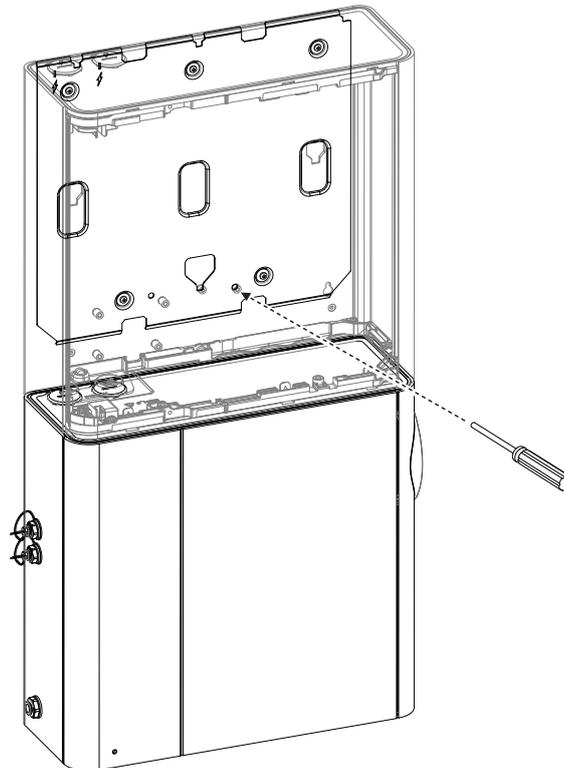

Figure A-29: Secure the Local Relay StaX to its mounting bracket
5. Secure the Local Relay StaX to its mounting bracket by inserting and tightening a retaining screw (Figure A-29).